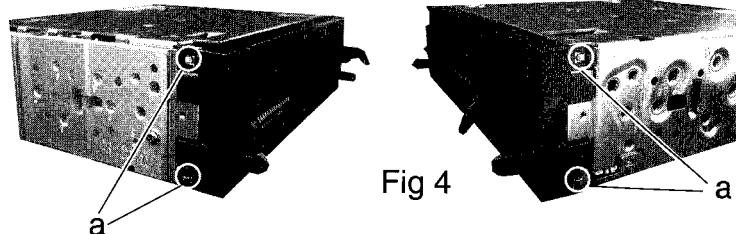

Fig 4
3. Remove the four ribs **a** assuring the front chassis assembly to the chassis.(See fig 4)